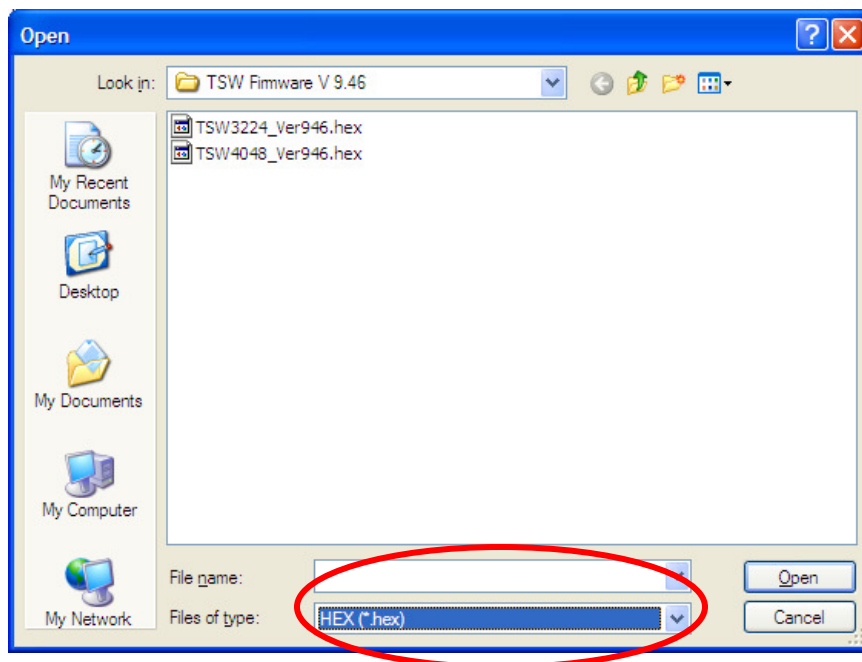

Figure 6
**Step 4** - Select the “.HEX” file from the pull-down menu at the lower right. Locate the file in the appropriate directory, as shown in Figure 6 below and mouse click the open button.